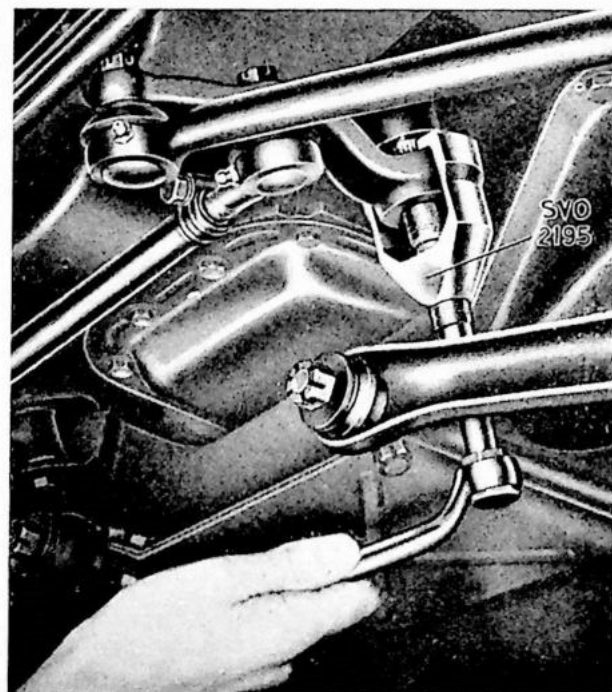

Fig. 23. Removing pitman arm.
5. Loosen jacket tube bracket under instrument panel. Lift away the driving seat. Loosen nuts for pitman arm and pull same off from lever shaft by means of tool SVO 2195 (fig. 23).
Jack up the vehicle until the wheels are clear of the ground. Turn the steering wheel to its central position (count the number of turns). Lower the vehicle. If the vehicle is correctly loaded, the wheels should be parallel with the centreline. If this is not the case, remove the pitman arm from the sector shaft. Use puller SVO 2195 (fig. 23). Then move the left-hand wheel until it is parallel with the centre line of the vehicle and then re-fit the pitman arm. The steering shaft should be in its central position. If the steering wheel spokes are not horizontal, they should be adjusted. See "Replacement of steering wheel".